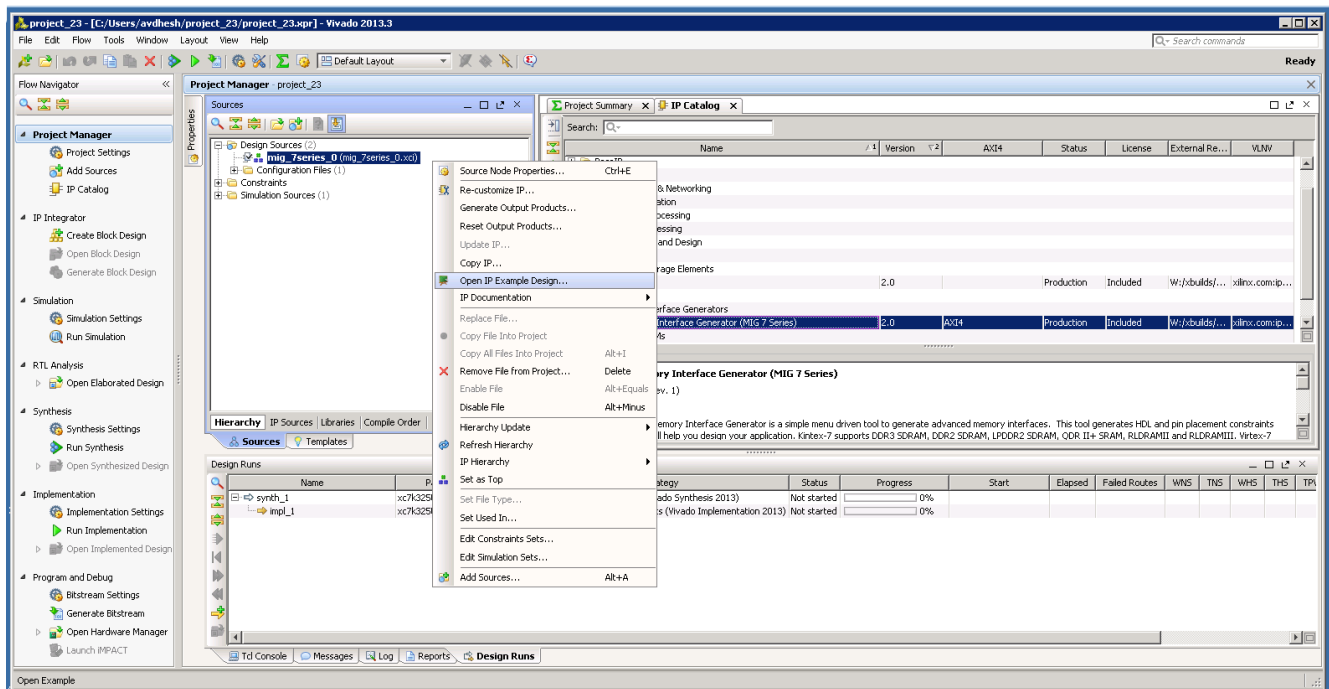

Figure 3-32: Open IP Example Design
9. Vivado supports **Open IP Example Design** flow. To create the example design using this flow right-click the IP in the **Source Window**, as shown in Figure 3-32 and select.